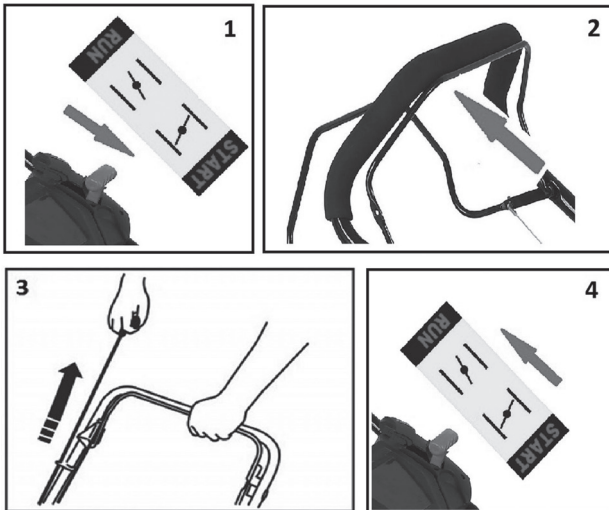

Fig. 6
1. When the motor is not warm, set the choke control lever to the Start position (Fig. 6 - point 1). When the motor is already warm, the lever may remain in the RUN position.
2. Pull the start/brake lever towards the handle and hold it there (Fig. 6 – point 2), then pull on the pull cord (Fig. 6 – point 3). The engine should start up after 3-4 pulls.
3. After starting the motor, set the choke control lever to the RUN position (Fig. 6 - point 4).